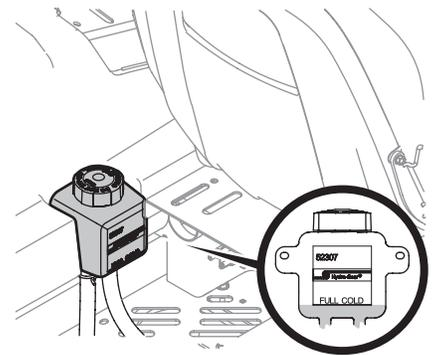

Figure 25
- Clean the reservoir cap and the area around the cap to prevent debris from contaminating the transmission oil. See Figure 25.
- Turn the reservoir cap counter-clockwise to remove, then check the oil level in the reservoir. Oil should be visible at the bottom of the cup, but the oil level must NOT be above the "FULL COLD" line. See Figure 25. DO NOT FILL THE RESERVOIR.